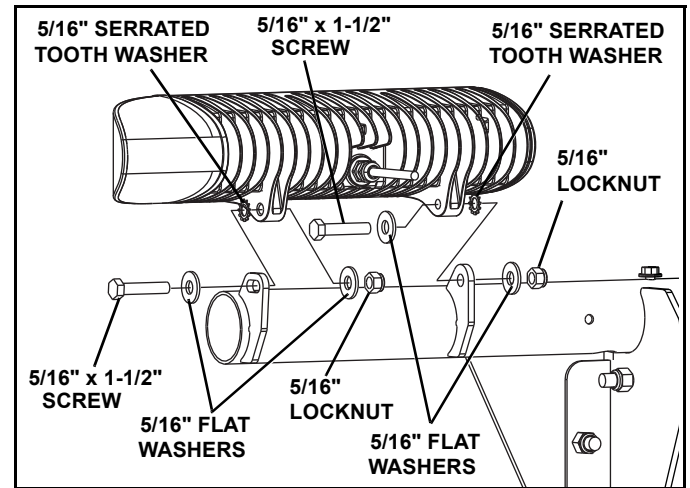

Figure 1-10
10. Place Drivers Side headlamp on top of Light Bar with the headlamp tabs inside of the Light Bar tabs. Insert (2) 5/16" x 1-1/2" screws, and (4) 5/16" washers. Screws must be inserted from the outside of the plow to the center. Place (2) 5/16" serrated tooth washers between the headlamp and Light Bar tabs. Secure with (2) 5/16" locknuts. Do not tighten. (See Figure 1-10)
19. Aim plow lights with plow in the fully raised position. Lock the lamps in the adjusted position by tightening two 5/16" x 1-1/2" screws. (See Figure 1-10)